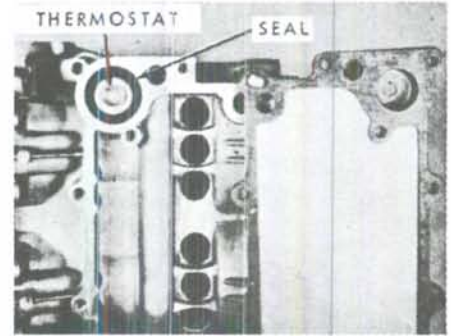

Fig. Mc5-10—The thermostat on late models is located under the exhaust and water manifold covers.
**THERMOSTAT.** Beginning in 1963, Fleet Scott, McCulloch 14 and OX 140 models are equipped with a thermostat, located on port side of cylinder block underneath the exhaust and water manifold covers. Refer to Fig. Mc5-10. To remove the thermostat, first remove the covers, then withdraw seal and thermostat unit. Install by reversing the removal procedure. Tighten remaining cap screws evenly and securely.